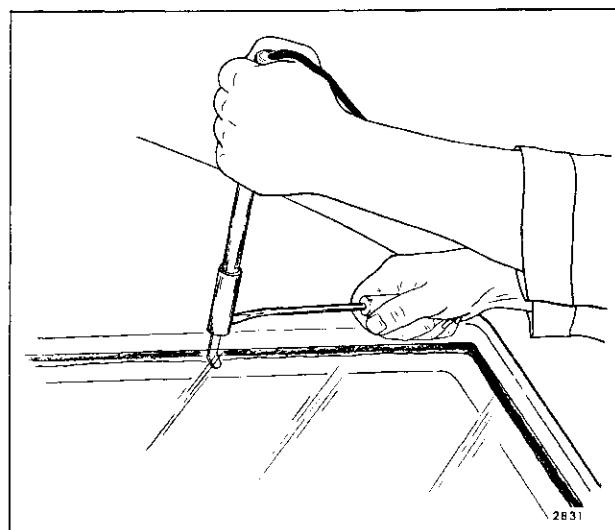
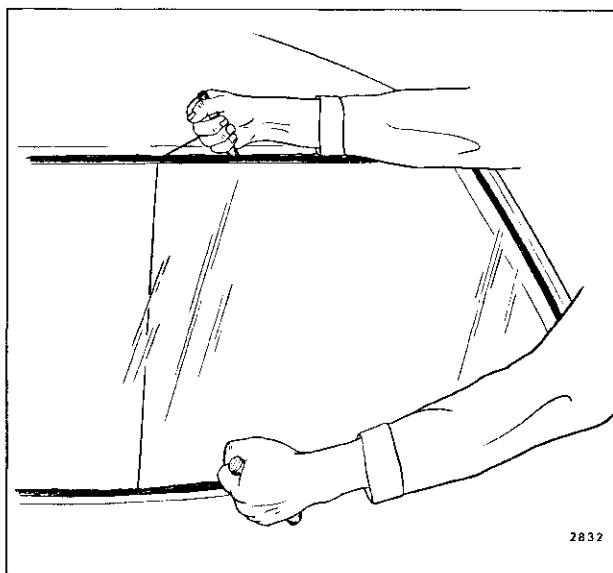

Fig. 4-2—Adhesive Caulked Glass Removal - Electric Hot-Knife Method
Fig. 4-3—Adhesive Caulked Glass Removal - One-Man Wire Method
NOTE: Optional methods of glass removal which require only one man are: (1) the electric hot-knife (Fig. 4-2) and (2) pulling the cutting wire through upper and lower edges of glass simultaneously (Fig. 4-3). For the latter optional method, insert one end of wire through caulking material at inner upper edge of glass and the other end of wire through caulking material at inner lower edge. Attach handles to both wire ends outside of body.